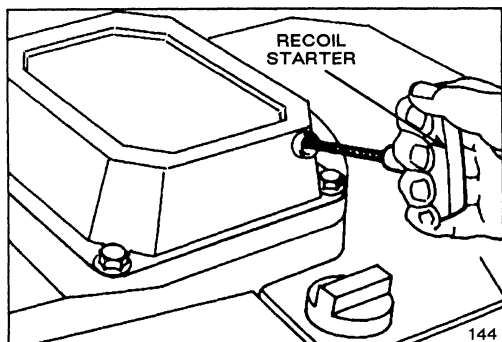

Figure 7
3. **STARTING**—Move throttle to CHOKE. Brace yourself and mower securely by placing your foot on the top left side of mower housing where it says "PLACE FOOT HERE WHEN STARTING". Pull engine mounted recoil starter out until positive engagement results; then pull vigorously to start the engine (Fig. 7). Regulate throttle as desired when engine starts.